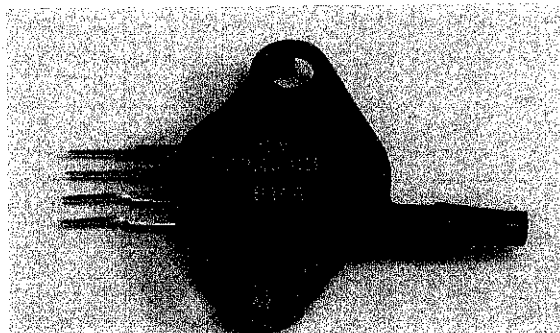

Figure 6: Motorola MPX50GP Pressure Sensor
- Figure 6:** Motorola MPX50GP Pressure Sensor